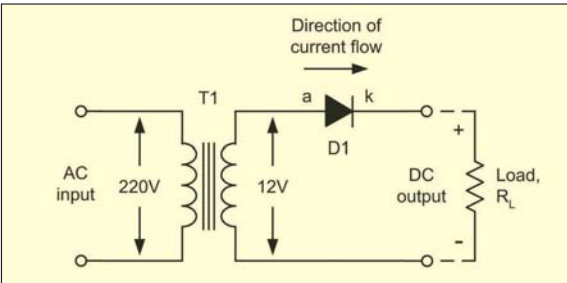
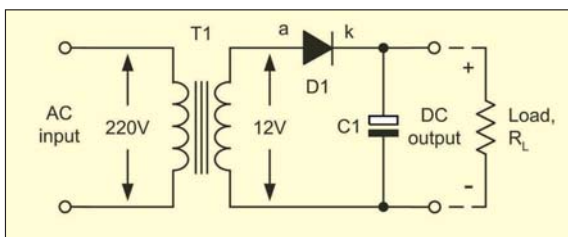

Fig.5.8. A simple half-wave rectifier circuit
Fig.5.11. Effect of adding a reservoir capacitor to the output of the simple half-wave power supply
Semiconductor diodes are commonly used to convert alternating current (AC) to direct current (DC), in which case they are referred to as *rectifiers*. The simplest form of rectifier circuit makes use of a single diode and, since it operates on only either positive or negative half-cycles of the supply, it is known as a *half-wave rectifier*. Fig.5.8 shows a simple half-wave rectifier circuit.
The circuit Fig.5.11 shows a considerable improvement to the simple rectifier circuit in Fig.5.8. The capacitor, C1, has been added to ensure that the output voltage remains at, or near, the peak voltage even when the diode is not conducting.
Capacitor C1 is referred to as a *reservoir capacitor*. It stores charge during the positive half-cycles of secondary voltage and releases it during the negative half-cycles. The circuit shown in Fig.5.11 is thus able to maintain a reasonably constant output voltage across R_L . Even so, C1 will discharge by a small amount during the negative half-cycle periods from the transformer secondary.